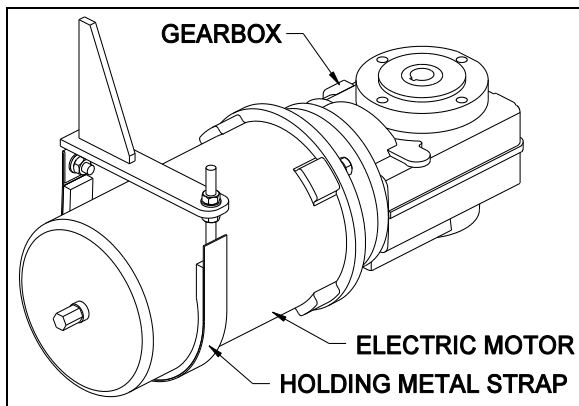

FIGURE 23 : ELECTRIC MOTOR
Inspect the electrical connections and their watertightness. Check that the bolts and the holding metal strap are tight (figure 23).
2. Disconnect the electric wire cable from the motor. Release the motor holding metal strap (figure 23).
5. Replace and tighten the motor holding metal strap (figure 23).